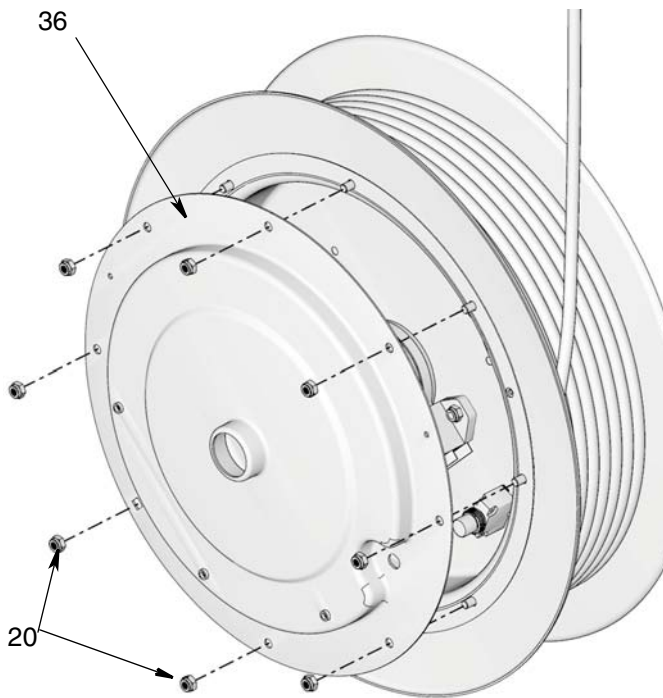

FIG. 6: Size 10 shown
- 9. **For Size 5 models:** Loosen six 10 mm hex nuts (20) and remove cover (36). (FIG. 6).
- For Size 10 models:** Loosen eight 10 mm hex nuts (20) and remove cover (36). (FIG. 6).